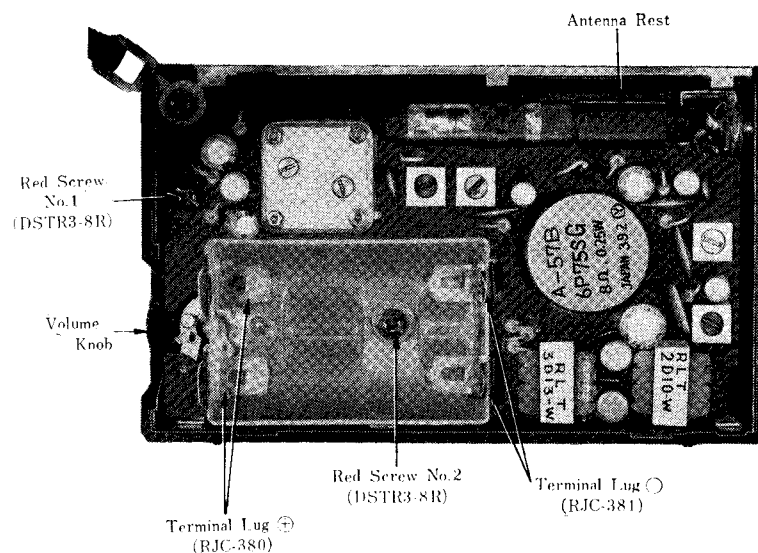

Fig. 5 Top View—Disassembly Points
To Remove Chassis (Refer to Fig. 5)
2. Remove two (2) red chassis mounting screws, Nos. 1~2, as illustrated in fig. 5.